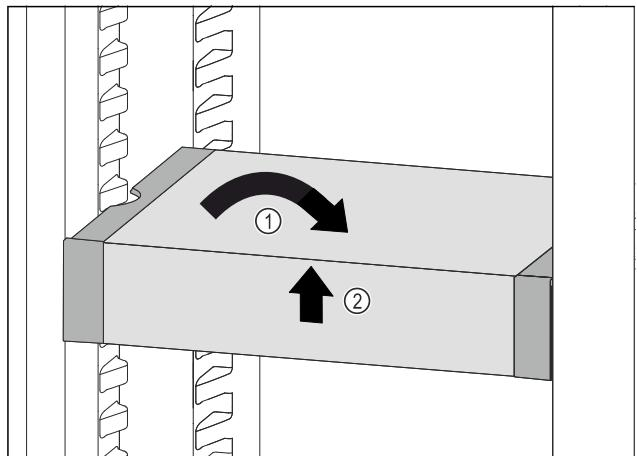

Fig. 84
- ▶ Set VarioSafe straight. Fig. 84 (1)
- ▶ Lift VarioSafe at the front. Fig. 84 (2)